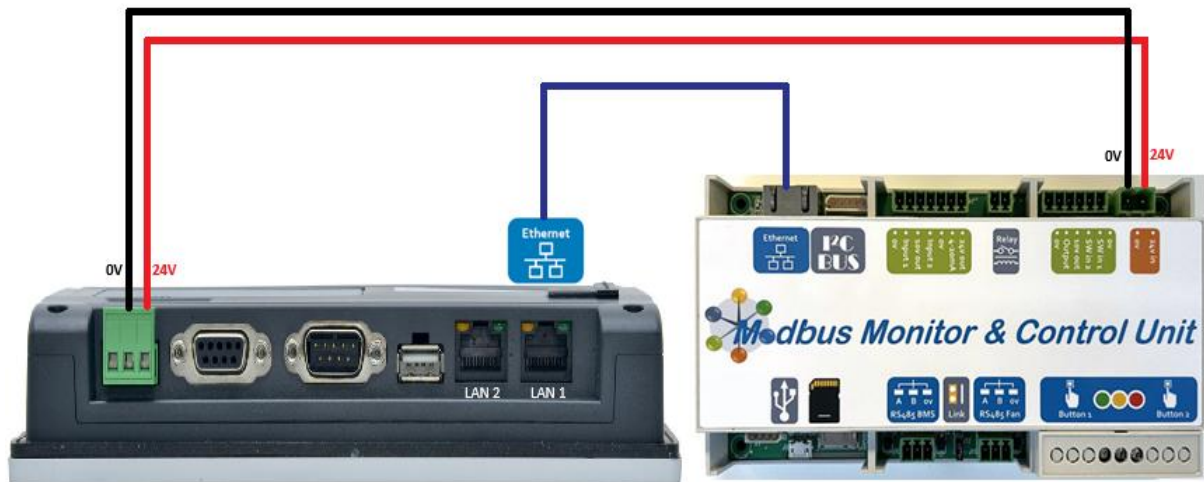

Figure 1 – HMI connection with MMCU
2. Connect an Ethernet cable from LAN port 1 of the HMI to CN1127 and switch ON both the devices (Figure 1).